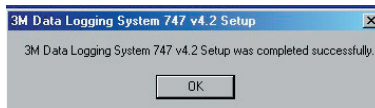

Figure 1
5. After completing the set-up, click OK (Figure 1).